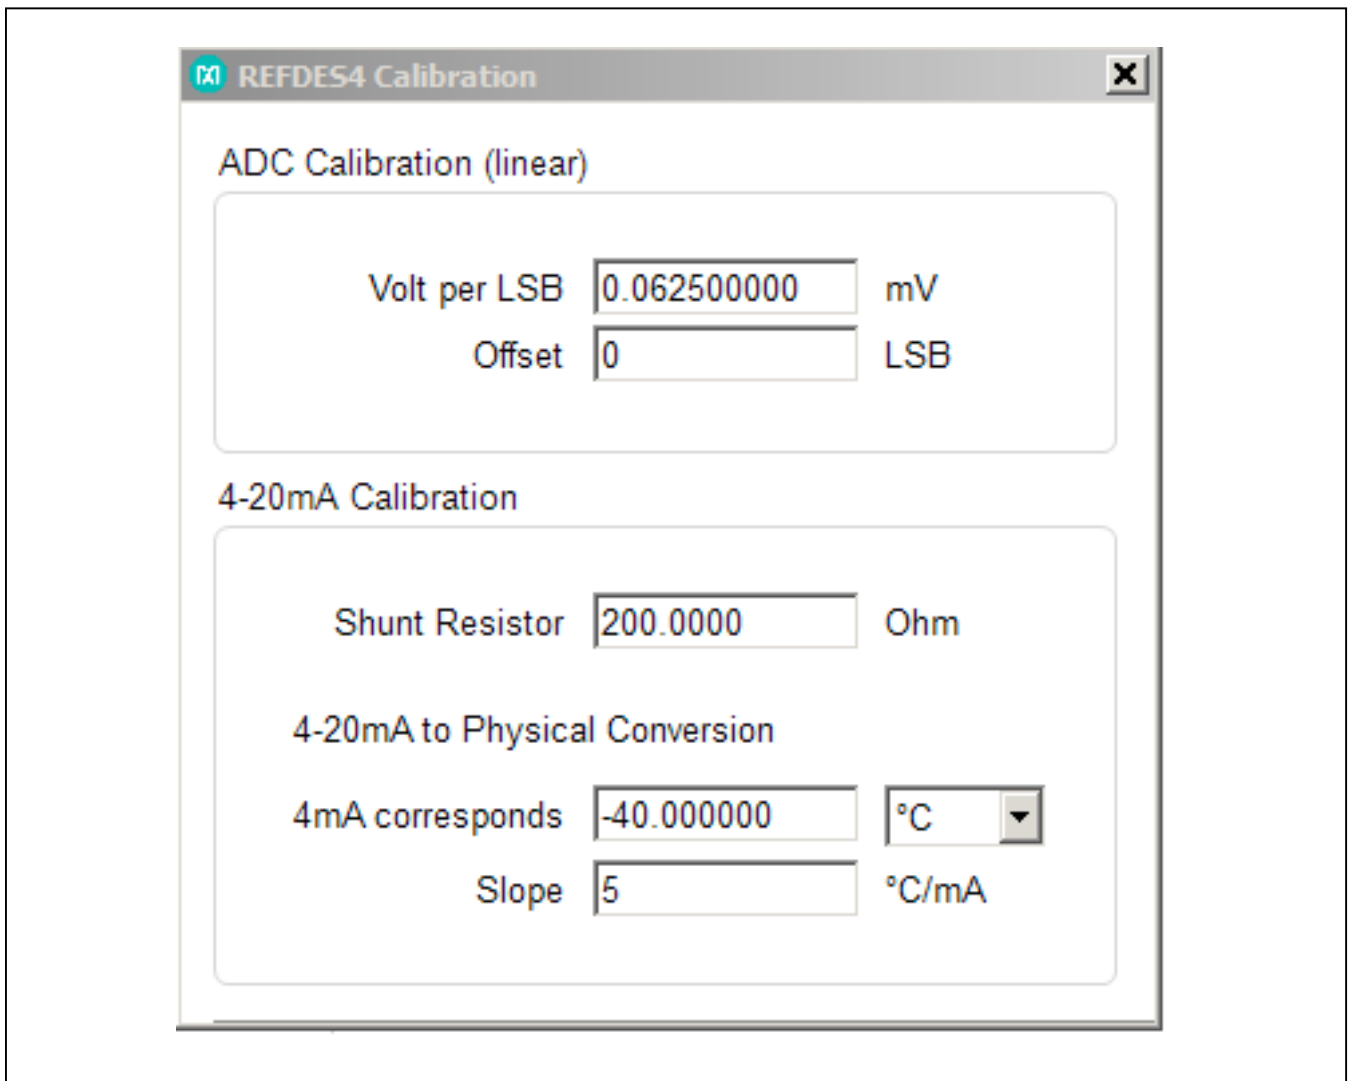

Figure 11. "Calibration" Display on Munich/Campbell GUI
- e) **Calibrate:** If the user wishes to calibrate, this option enables a real-time calibration as shown in Figure 11.